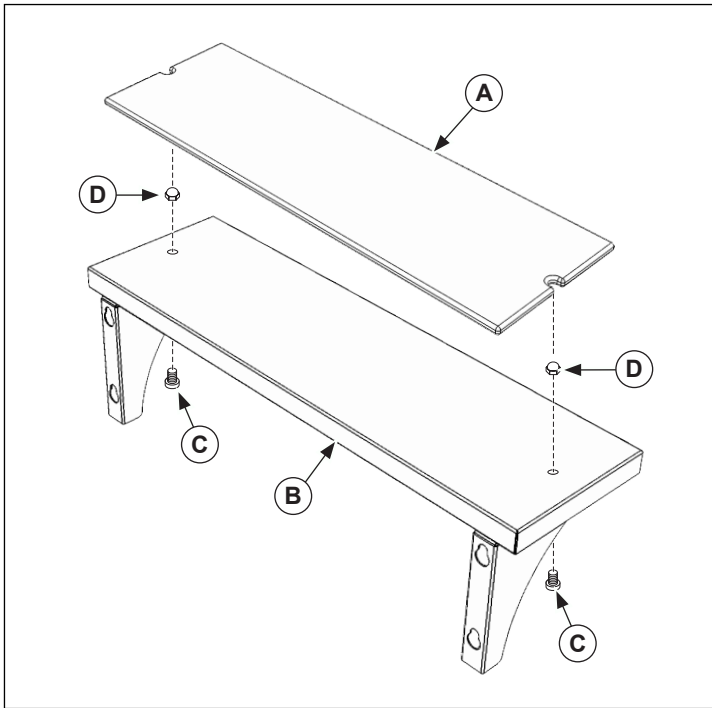

Figure 6. Cutting Board and Cutting Board Top Installation
2. Secure the brackets (D) to the weld studs (B) using the nylock nuts (A) as shown.
3. Secure the cutting board locating nuts (D) to the cutting board top (B) using the screws (C) as shown. See Figure 6.